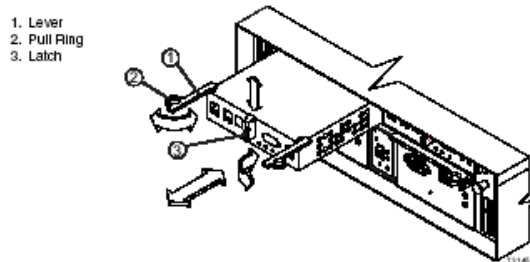

FIGURE 7-16 Removing and Replacing a Controller
9. Remove the failed controller. Figure 7-16 illustrates the following steps:
12. Slide the replacement controller all the way into the empty slot and lock the levers into place. Figure 7-16 on page 7-31 illustrates installing a controller.